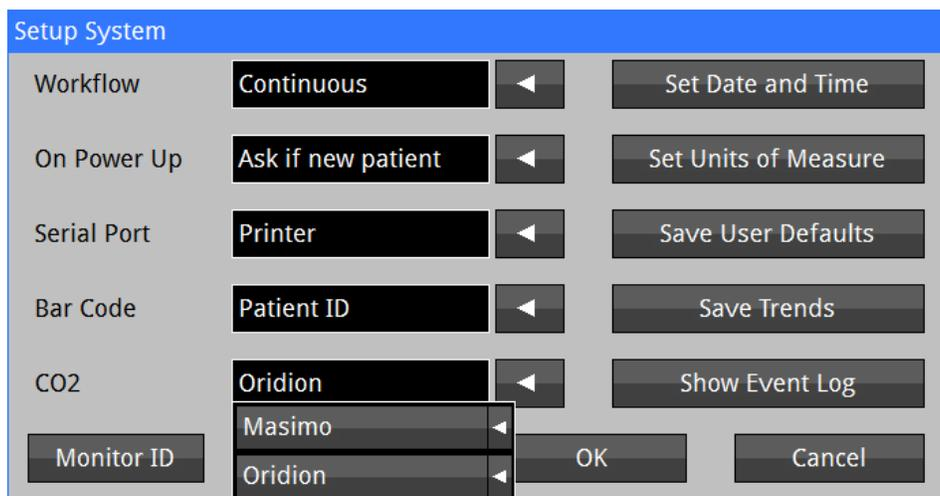

Figure 9: System Setup screen (Oridion CO₂ enabled)
- d) Touch the  on the **CO2** line (Refer to Figure 9 below); **Note** Oridion may be the only selection.